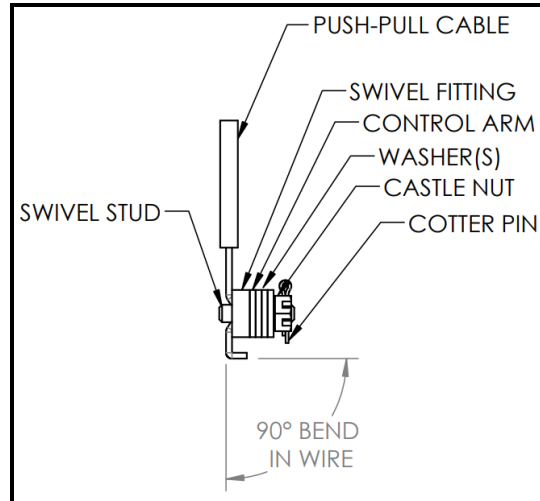
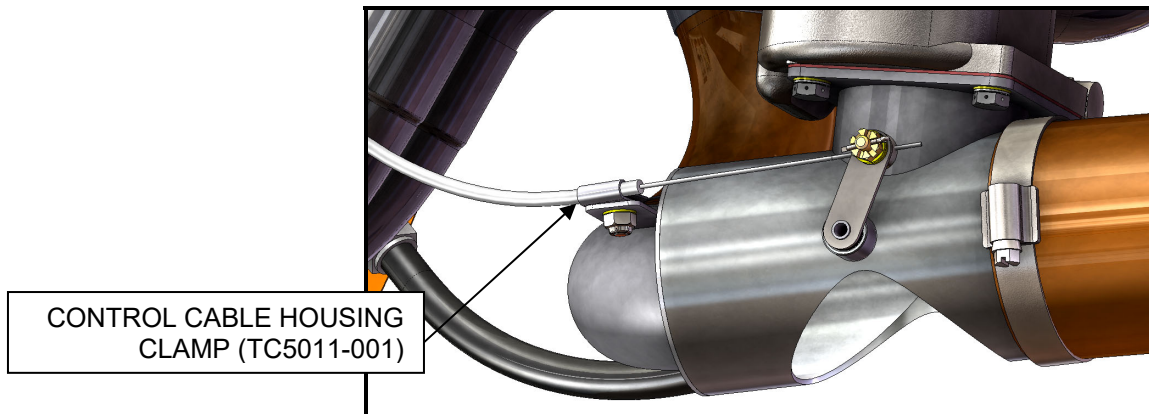

Figure 5 - Carburetor Heat Control Cable Attachment
Figure 6 – Control Cable Housing Clamp
- d. Tighten castle nut one-half turn past finger tight, ensuring that the wire is pulled tight into and against swivel internal cone. See Figure 5.
- e. Reinstall control cable housing clamp onto new carburetor heat box aft tab. Snug, but do not fully torque lock nut at this time. See Figure 6.
- h. When control travel is set, turn castle nut to align with swivel stud and safety with cotter pin. Torque control cable clamp nut to 20-25 in-lbs. See Figure 5 & Figure 6.